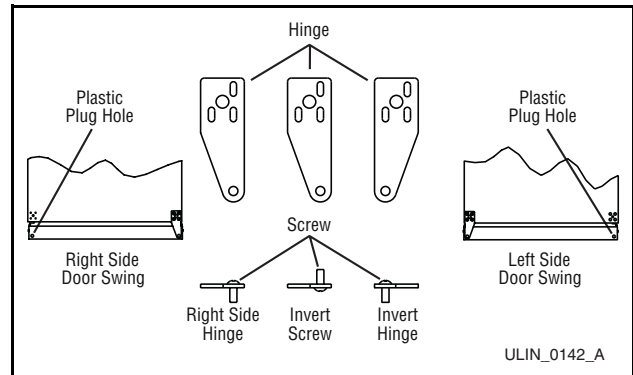

Figure 27
- Remove plastic hole plug (Figure 27) from door handle and relocate on opposite side.